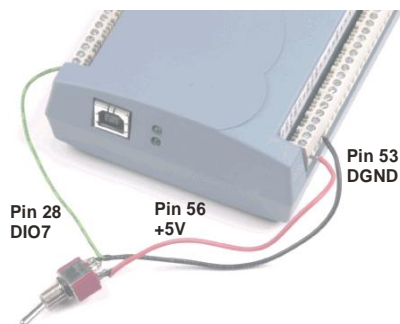
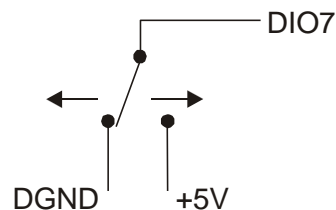

Figure 6. DIO7 detecting the state of a switch
Figure 7. Schematic showing DIO7 detecting the state of a switch
When you configure the digital bits for input, you can use the digital I/O terminals to detect the state of any TTL level input. Refer to the switch shown in Figure 6 and the schematic shown in Figure 7. When the switch is set to the +5 V USER input, **DIO7** reads *TRUE* (1). If you move the switch to DGND, **DIO7** reads *FALSE* (0).